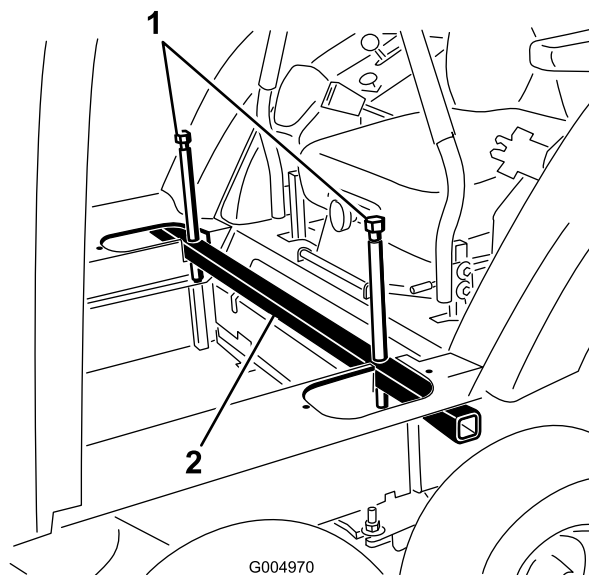

Figure 26
13. Loosen the jacking bolts and remove the cab jack tube from the cutouts in the cab floor (Figure 26).